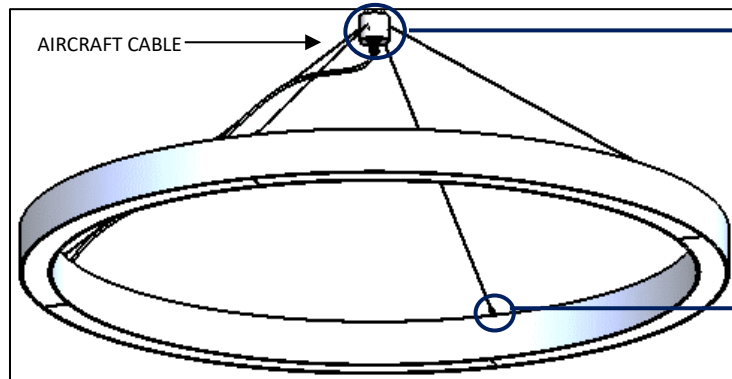
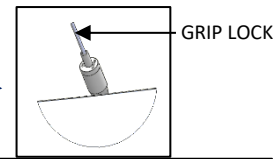

FIG. 12 – AIRCRAFT CABLE INSTALLATION
FIG. 14 – GRIPLOCK INSTALLATION
7. After the STEM ASSEMBLY is installed and hanging, attach the FOUR AIRCRAFT CABLES from the COLLECTOR to the GRIPLOCK at the fixture as shown in FIG.12. Each cable must be inserted at least 1.75" into the GRIPLOCK as shown in FIG. 14.